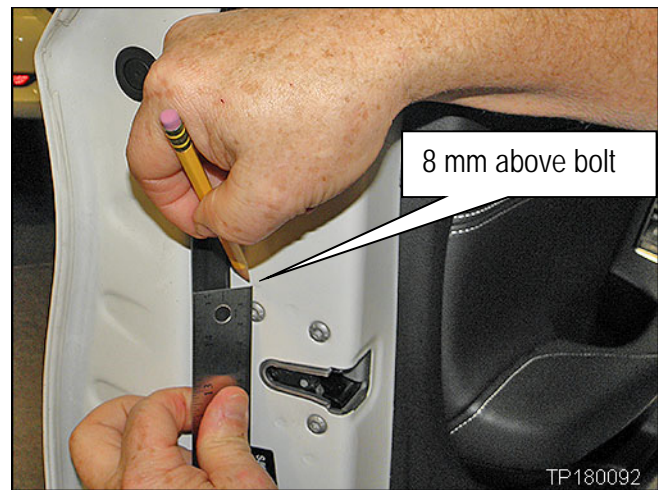

Figure 7
12. Make a light pencil mark 8 mm above the latch bolt shown in Figure 7.